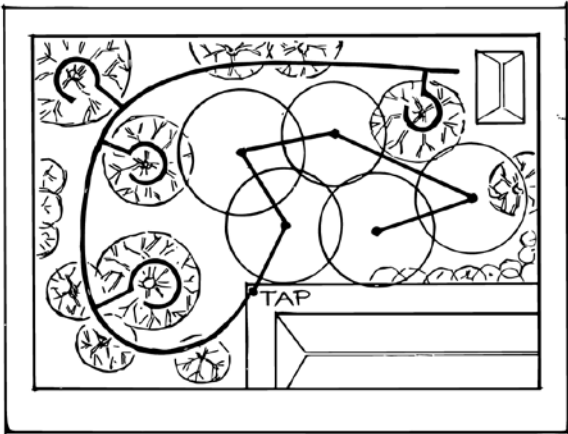

Fig 3 Mark out the distribution system
- Now, draw where the main poly tube line will go from your tap all the way around the garden or lawn area. Mark distribution lines off the main line to ensure all required areas of the garden are covered sufficiently. You will find that the system will work more efficiently if you create a loop with the distribution lines and position sprinklers or microsprays so that their spray coverage overlaps slightly (Fig 3).